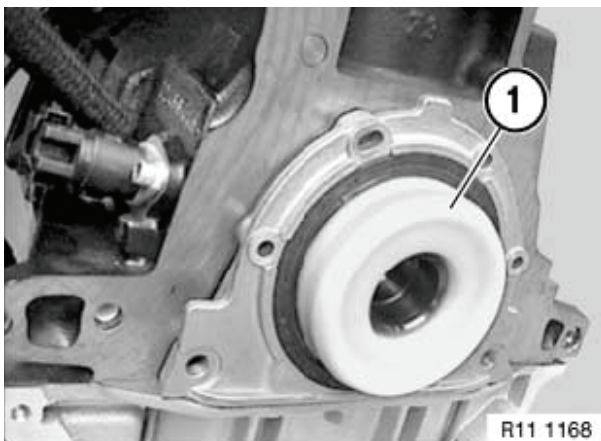

Figure 5-69
Note: The rear crankshaft seal and housing are available only as an assembly. The seal has a protective bushing (**Figure 5-69, (1)**) installed and is to be used during installation. Use only the supplied bushing as an installation tool. Keep the bushing as a special tool for use in future service.
6. Lubricate the crankshaft outside diameter. Push the seal housing squarely onto the crankshaft (**Figure 5-69**).